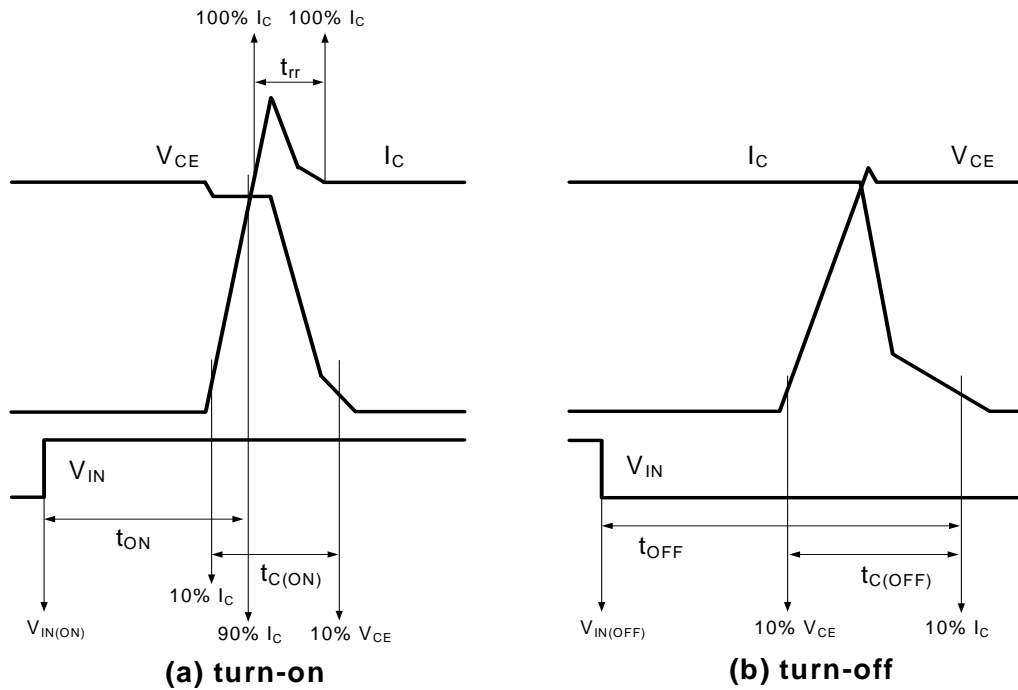

Figure 4. Switching Time Definition
4.  $t_{ON}$  and  $t_{OFF}$  include the propagation delay of the internal drive IC.  $t_{C(ON)}$  and  $t_{C(OFF)}$  are the switching time of IGBT itself under the given gate driving condition internally. For the detailed information, please see Figure 4.